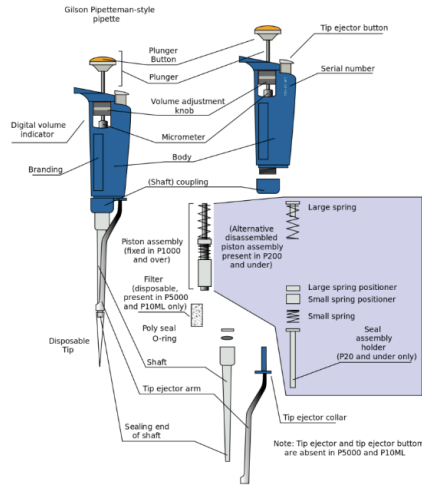

Figure 2: Schematic of an air displacement pipette
- [6] Microfluidic pipette. https://www.researchgate.net/figure/Operation-principle-of-the-microfluidic-micropipette-aspiration-device-a-Experimental_fig2_308389352. Accessed: 2023-02-13.